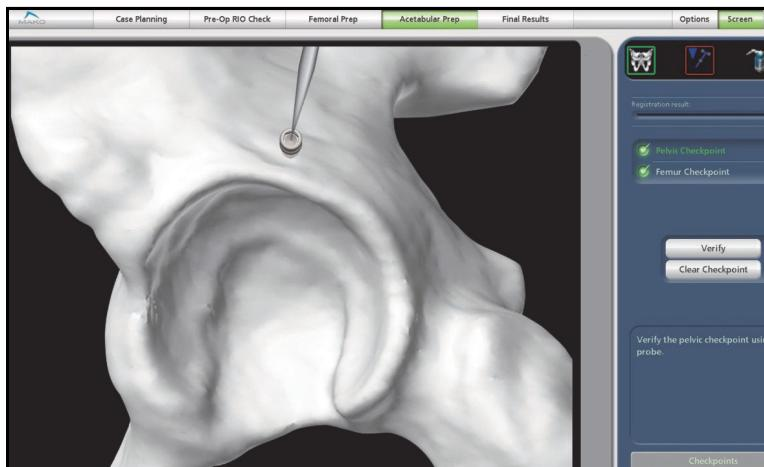

Figure 21. Pelvic Checkpoint Placement for Posterolateral, Anterolateral and Direct Anterior approach
2. Insert the Pelvic Checkpoint Screw such that it remains outside the acetabular cavity even after reaming. This is done by angling the screw 60 degrees from the surface. The hex head of the screw should be 1 cm superior from the acetabular rim (exclude superior osteophytes if the labrum is ossified) (Figure 21).
4. The screw has a double head extension such that it is easy to find and touch with the probe in the hex head to collect the checkpoints for accuracy of acetabular preparation. The initial verification requires that the probe be touched twice into the screw; one time for capture and the second for verification. (Figure 21).
1. Collect the pelvic landmarks on the bone within 5 mm of the designated position in the software using the Probe (Figure 21). These landmarks are required to properly orient the pelvis prior to registration and are the locations collected pre-operatively in the CT Pelvic Landmarks.